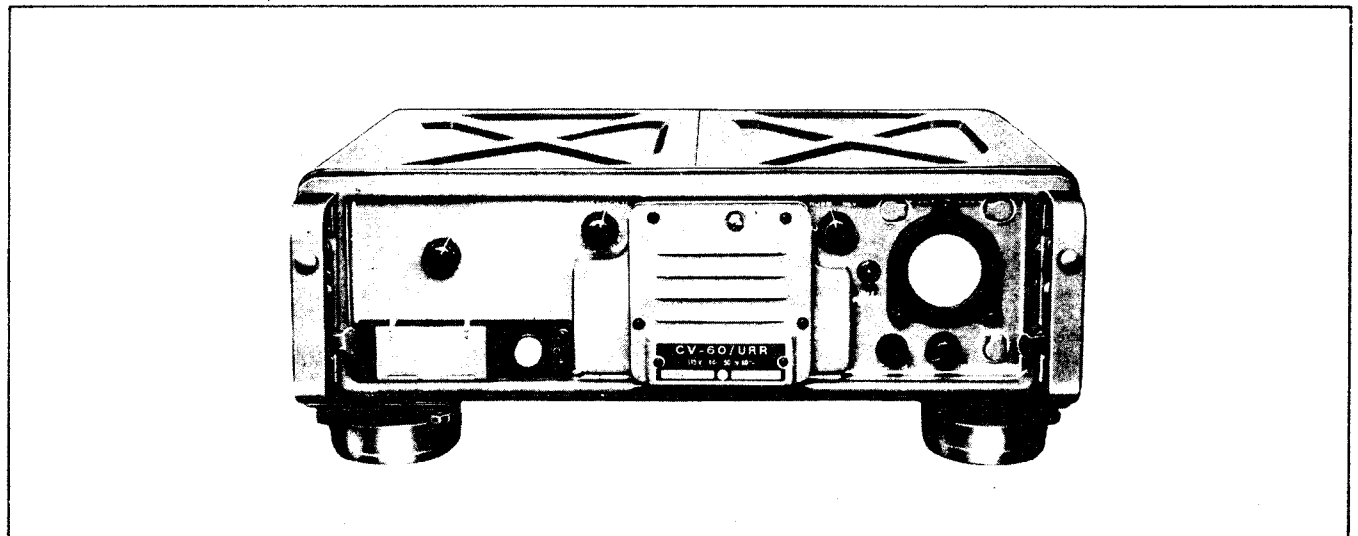

Figure 1-2. Frequency Shift Converter CV-60/URR
a. FREQUENCY SHIFT CONVERTER CV-60/URR.—See Figure 1-2. Frequency Shift Converter CV-60/URR is housed in a case  $5\frac{1}{8}$  inches high,  $17\frac{5}{16}$  inches wide, and  $11\frac{3}{16}$  inches deep. All units are finished in smooth grey enamel. Removable brackets with shock mounts are supplied for table mounting.